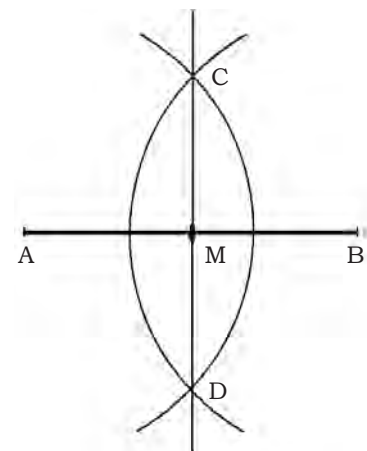

Fig. 1.6: Bisecting a line
2. Set a compass more than half the length of AB, and using A as the centre draw arcs as shown in Fig. 1.6.